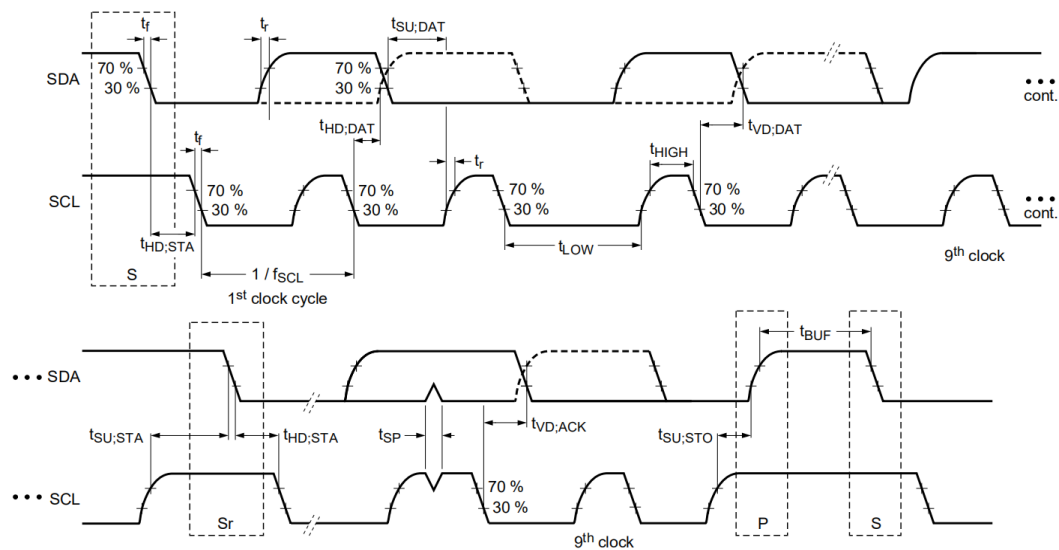

Figure 4.1 Two-Wire Timing Diagram
The NST103 of temperature sensor are SMBus, and I2C interface-compatible. The device support various operations as Table 4.1. The following list provides bus definitions. Parameters for Figure 4.1 are defined in the Timing Requirements. Bus definitions are:
**Start Data Transfer:** A high-to-low transition of SDA with SCL high is a START condition which must precede any other command (see Figure 4.1).
Writing operation is triggered by sending the slave address in write mode (R/W=0), then the master sends pointer register, and send the data byte afterwards. The transaction is ended by a STOP condition. The details of this sequence are shown in Figure 4.1.